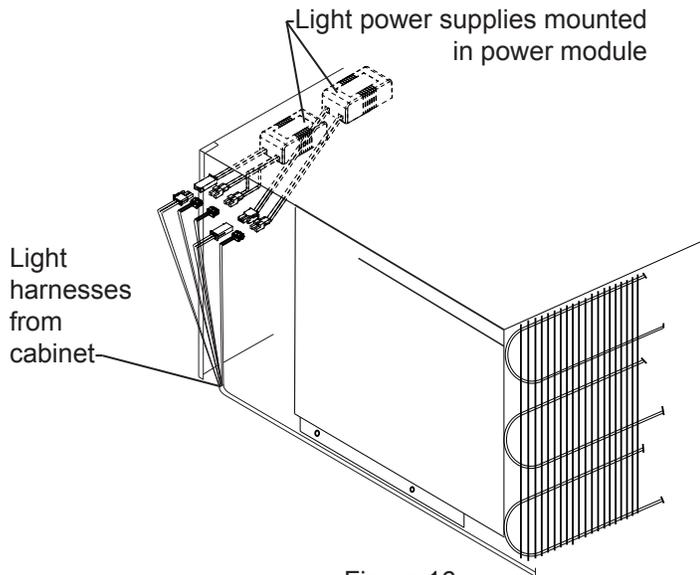

Figure 16
On 18" wide freezer only (M18AF): Plug in the (5) electrical connectors for the lights coming from the cabinet into the (2) power supplies which are attached to the power module, see Figure 16.